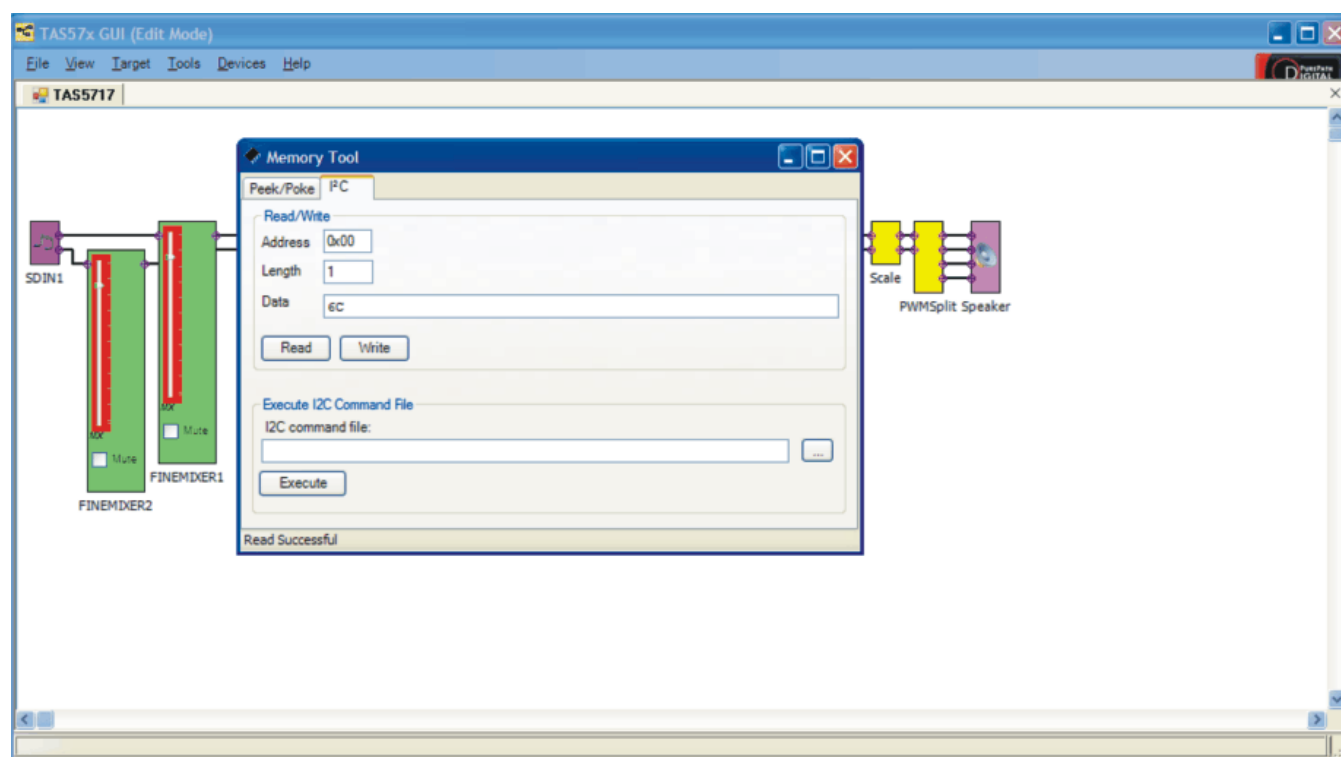

Figure 4. I²C Communication Dialog
5. Read the I²C subaddress 0x00. The data should read **6C**, as shown in Figure 4.